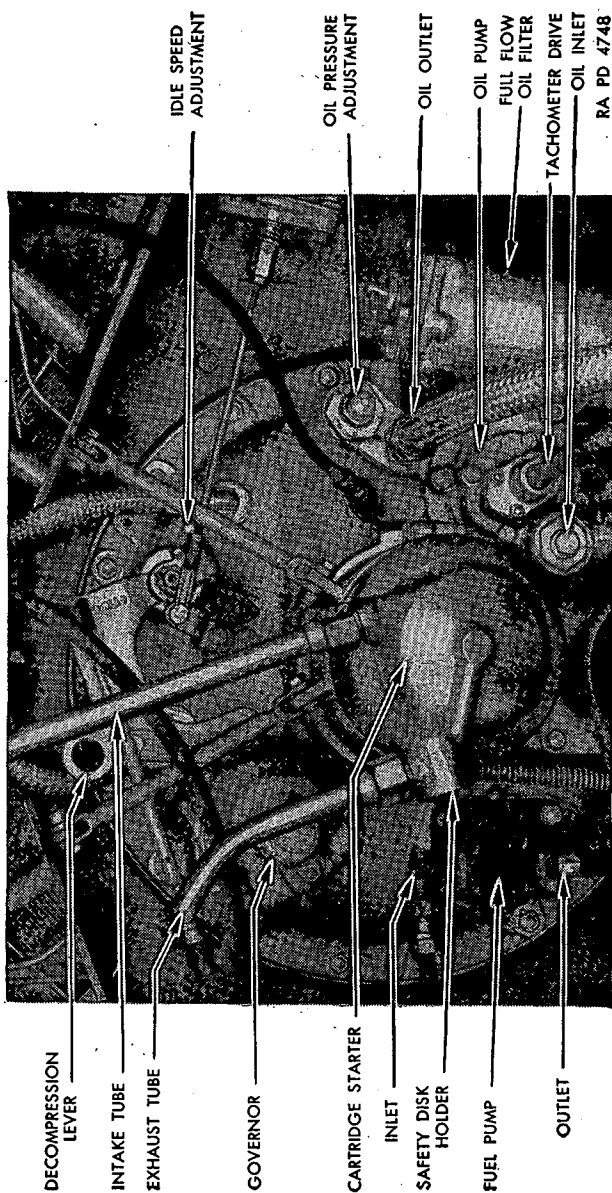

FIGURE 38.—Accessory case, Gulberson T-1020, series 4.
64. Accessory case (fig. 38).—The accessory case is an aluminum alloy casting, attached to the rear crankcase, and contains the entire gear train. Standard SAE flange mountings are provided for the starter, generator drive, and fuel supply pump. The accessory case also carries the oil pump, oil pressure relief valve, throttle control shaft, outlet oil connections, and engine vent holes.
b. Replacement.—(1) To replace oil pump assembly:
- 1. Remove nuts from studs of filter body and lift filter element out of body. This element is easily damaged and should not be dropped or roughly handled (fig. 38).